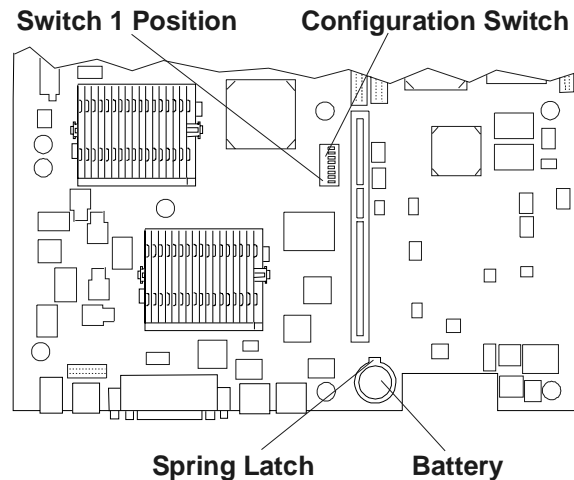

Figure 12-1. Configuration Switch Location
2. Move switch 4 in the configuration switch on the system board (labeled "Clear CMOS") to the ON position. See Figures 12-1 and 12-2.
3. Move switch 3 in the configuration switch on the system board (labeled "Clear Password") to the ON position. See Figures 12-1 and 12-2.